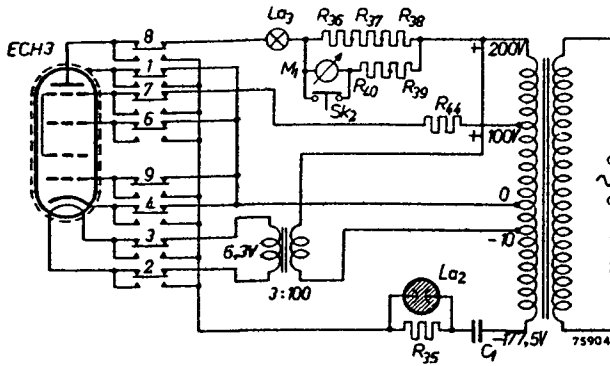
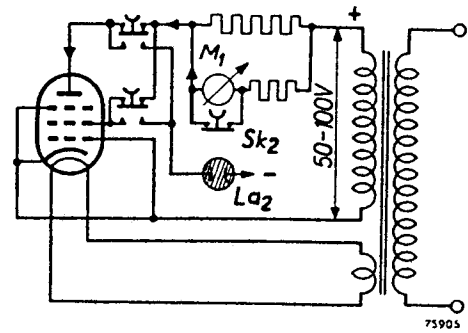

Fig. 5
Fig. 6
The functioning is illustrated in fig. 5, showing for example the circuit for measuring an ECH 3.
A. First the anode of the valve part to be tested has to be checked for leakage or short-circuiting. This is done by pressing in the button corresponding to this electrode, as indicated on the label of the measuring card under "Electrode" (button 8 in fig. 5).
An exception are those tubes where during measurement the screen grid of the valve part under test, is connected to the anode. This can be seen on the measuring card of the appertaining valve part. If, as is the case with most valves containing a screen grid, the hole  $G_s$  of group IV has been punched in the column for the screen grid of the valve part to be examined (see also manual), this means that during the measurement the screen grid is indeed separately supplied with a voltage (see e.g. fig. 5). If no hole  $G_s$  has been punched, this means that during measurement the screen grid is connected to the anode (fig. 6). In that case a hole A has been punched both with the anode as with the screen grid (see e.g. in the manual the EF 39, KL 1, KL 2, KL 5, UF 8, UL 1 etc.).